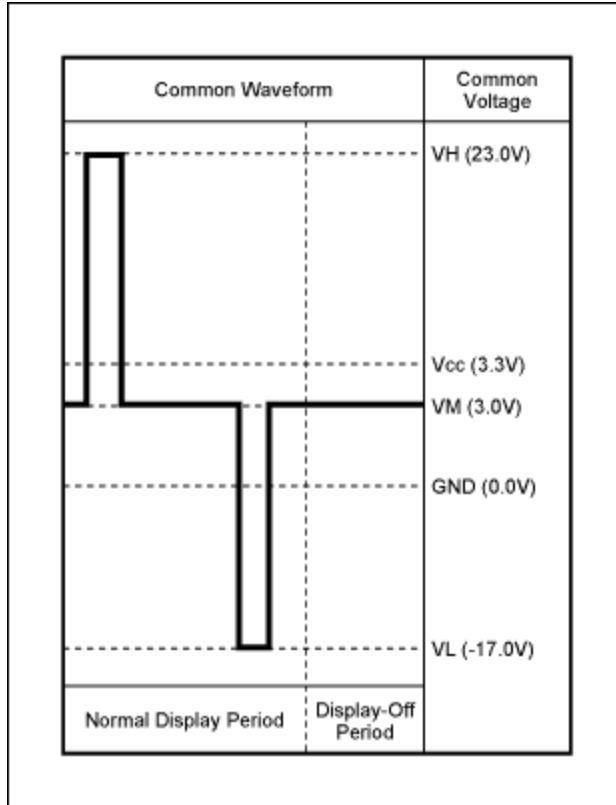

Figure 4. To avoid a damaging DC component across the LCD, these contrast waveforms are symmetrical about the reference level  $V_{REF}$ .
0.5mA to 2mA, tracking is excellent over a wide input range. **Figure 3** shows how  $+V_{OUT}$  and  $-V_{OUT}$  track each other as  $V_{REF}$  is moved away from 0V. One example of the need for a non-zero  $V_{REF}$  is indicated in **Figure 4**, in which the LCD-contrast voltages must be symmetric about  $V_{REF}$  to avoid a DC component across the liquid crystal, which in turn can damage the LCD or shorten its life.